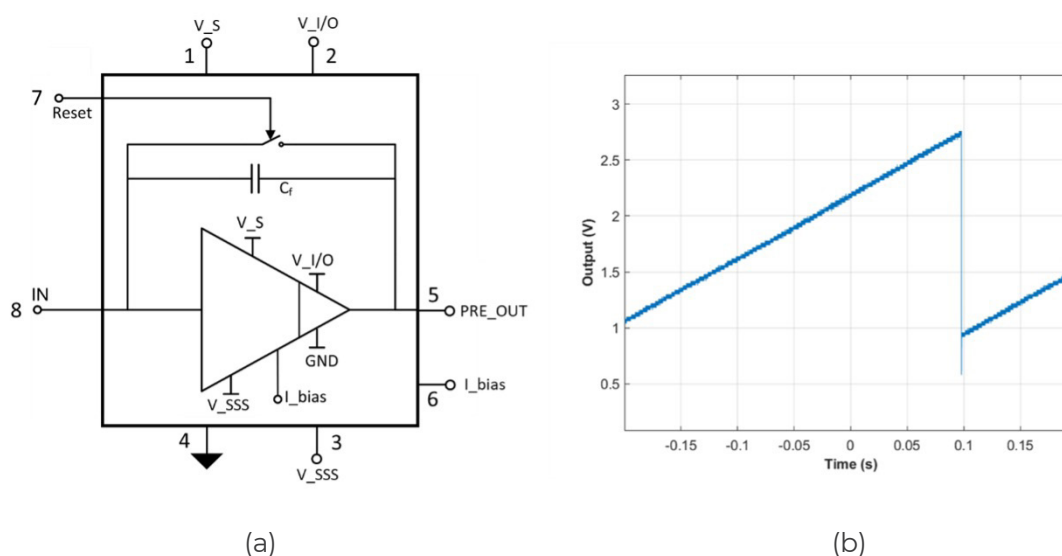

Figure 1. a) Functional block diagram and pads for a generic CUBE.
CUBE is a naked die charge-sensitive amplifier designed to readout different types of solid-state detectors. CUBE has a dimension of 750um x 750um and a thickness of 250um. The input current is integrated on the feedback capacitor and read as a voltage at the output. The charge on the feedback capacitor can be reset by means of continuous or pulsed reset. In pulsed reset mode, a reset signal is required to return the feedback capacitor to the initial state eliminating the integrated charge (see **Figure 1**). CUBE requires three polarizations in the low voltage range and a ground connection (see **Table 1**). The internal current reference can be modified using the I_bias signal, but it is recommended only for special application and should be left not connected.
1. Begin the bonding procedure with the GND pad (see **Figure 1**). Continue the bonding procedure clockwise, leaving unbonded the IN pad (see **Figure 1**). Note: only one of the two reset options should be bonded, the other one can be left unbonded or bonded to GND.